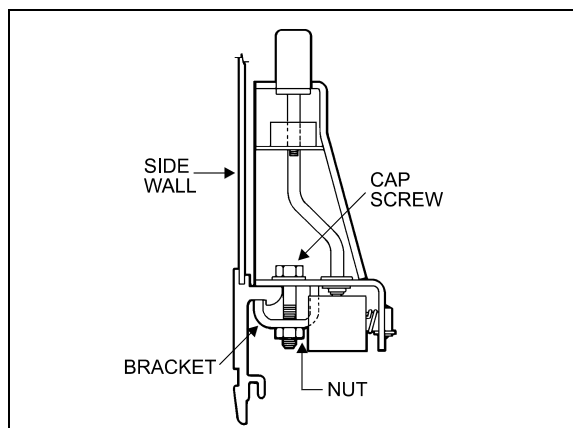

FIGURE 23: ARMREST
4. Remove 2 cap screws, nuts, and washers holding seat frame to side wall and retain the 2 holding brackets. See figures 23 and 24.